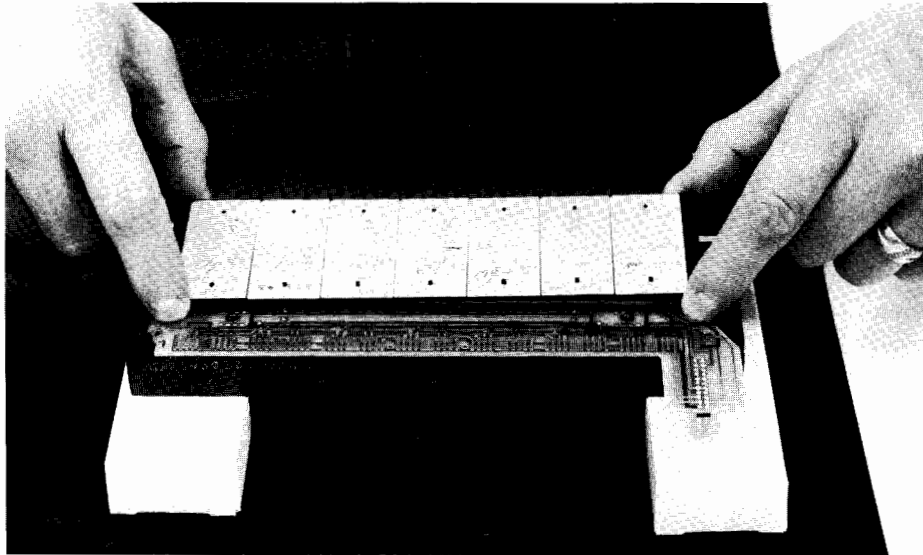

Figure 4-43. Removing Chip Carrier
4. Remove chip carrier with chip modules in place by lifting at both ends (Figure 4-43).